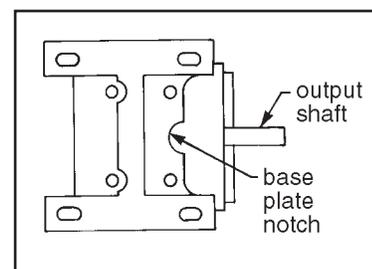

Figure 2
2. Position base plate against flat surface of Super-Mod housing with the notched side toward the output shaft as shown in Figure 2.